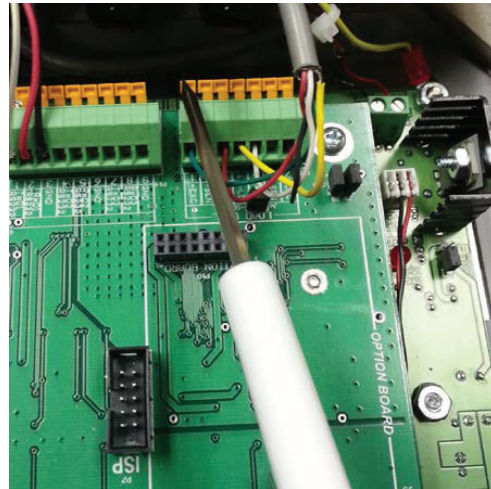

Figure No.4
7. To terminate a wire, use a small flat blade screwdriver and press down on the release bar for the terminal (Figure No. 4). Insert the wire into the terminal opening. Remove the screwdriver, allowing the release bar to return to its original position, locking the wire in place.